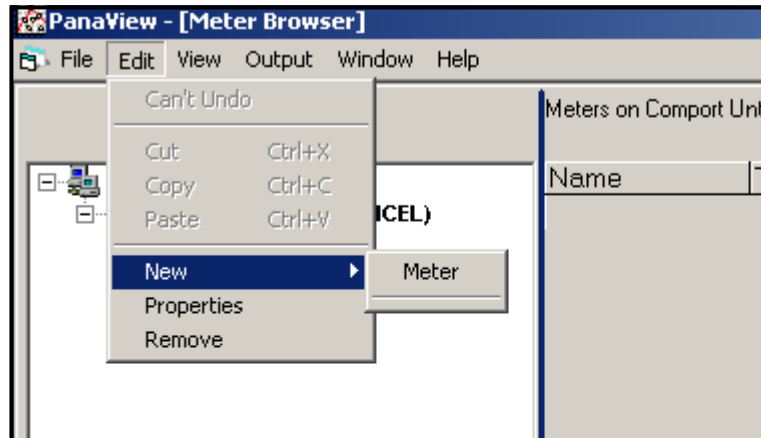

Figure 36: *New* Option in the *Edit* Menu
2. Click on the *New* option in the *Edit* menu (see Figure 36).